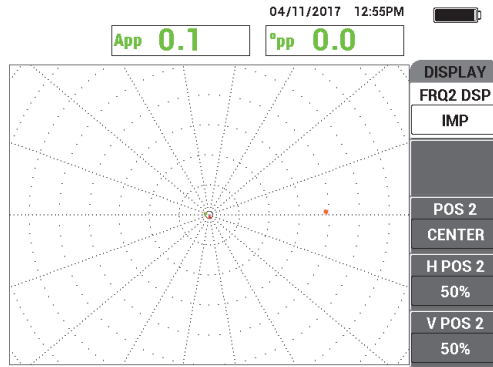

Figure 5-180 The FRQ2 DSP menu
2. Press the DISP menu key () twice to display the **FRQ2 DSP** menu (see Figure 5-180 on page 256).